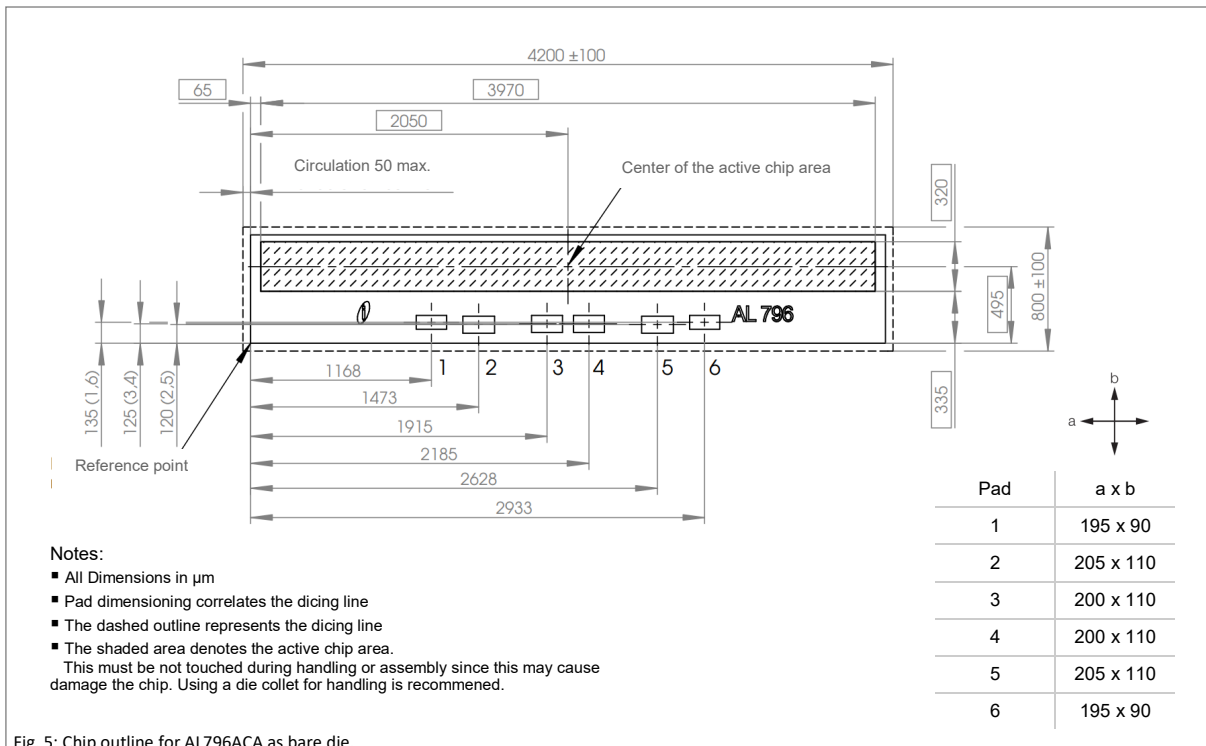

Fig. 5: Chip outline for AL796ACA as bare die.
| Pad size                | See Fig. 5 | -               |
1) Tolerances of chip see Fig. 5.